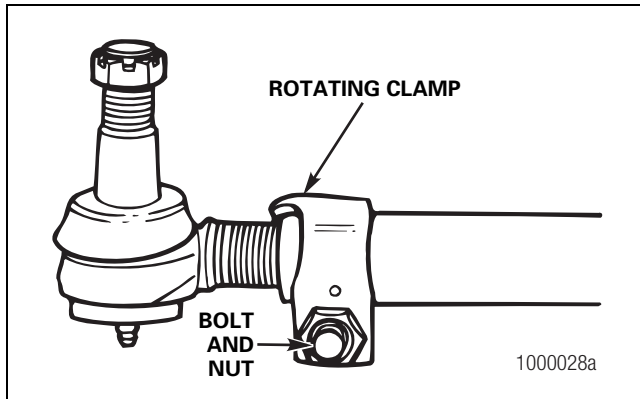

Figure 4.3
- B. Remove the bolts and the nuts from the clamp on the cross tube. The rotating style clamp on the cross tubes can be rotated for easier accessibility when removing the clamp bolt and nut. Figure 4.3.